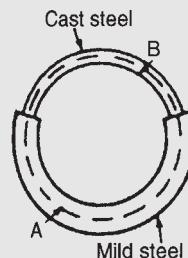

Figure 7.5
**Problem 14.** Figure 7.5 shows a ring formed with two different materials — cast steel and mild steel.